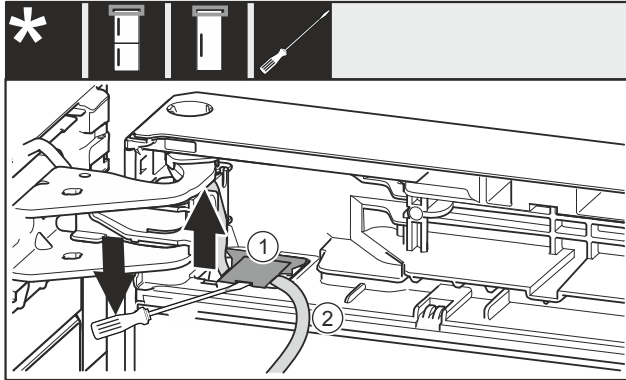

Fig. 23
- ▶ Use the screwdriver to lift up the cover *Fig. 23 (1)* and pull it out.
- ▶ Pull out the cable *Fig. 23 (2)*.